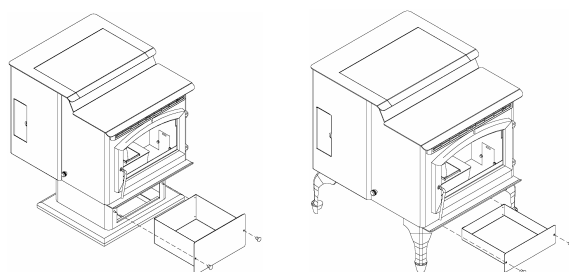

FIGURE 27
- Periodically remove and empty ash bin (see Figure 27) by unscrewing the two knobs on the front of the pedestal below the ash lip. Dispose of ashes properly. (See **"ASH REMOVAL"** above)